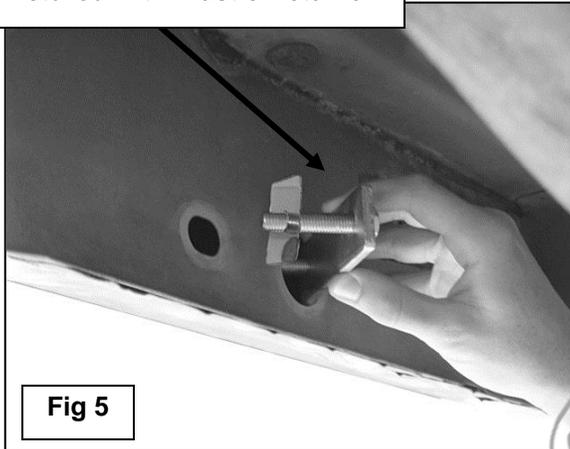
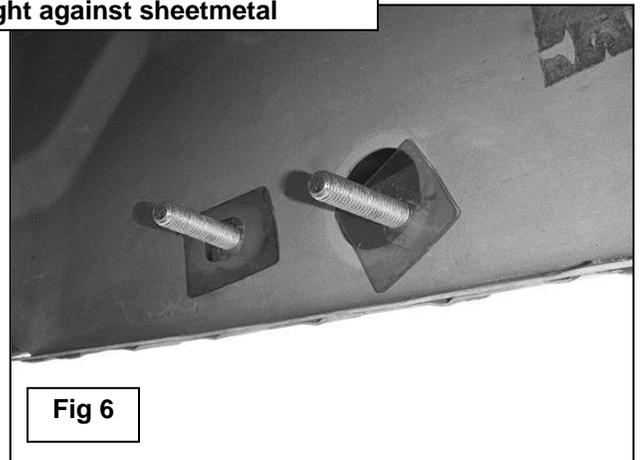

Fig 5
Fig 6
Note for 1997-98 3-Door models only: The 3-door model uses the included (1) 10mm Narrow Bolt Plate for driver side rear Bolt Plate installation. Thread (1) 10mm Plastic Retainer partially onto (1) threaded end on the Bolt Plate, **(Figure 5)**. Insert the other end of the Bolt Plate, (without plastic retainer), into the large round hole and back out the smaller round hole on the inside of the rocker panel. Continue to thread the Plastic Retainer down the Bolt Plate until it is flush with the sheetmetal. Thread (1) Plastic Retainer onto the remaining threaded end on the Bolt Plate, **(Figure 6)**. **IMPORTANT:** The Plastic Retainer is designed to prevent the Bolt Plate from falling into the body cavity and to aid in mounting the Bracket.